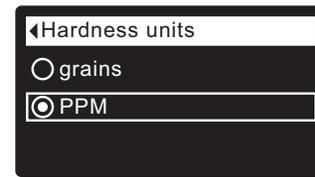

FIG. 58
1. From any of the rolling status screens, press the SELECT (O) button to display the **Main menu**.
3. Press the SELECT (O) button to display the User preferences menu.
5. Press the SELECT (O) button to display the Hardness units menu (See Figure 58).
6. If the desired hardness unit already has a dot next to it (See Figure 58), go to Step 7. Otherwise, press the DOWN (▼) or UP (▲) buttons to scroll to the other hardness unit, then press SELECT (O) to choose it.
7. Press the SELECT (O) button. The display will go back to the User preferences menu.